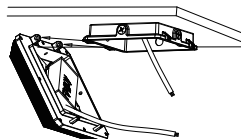

FIGURE 2-5
5. Insert the mounting hole of radiator horizontally to the shaft of driver cover (Figure 2-5)